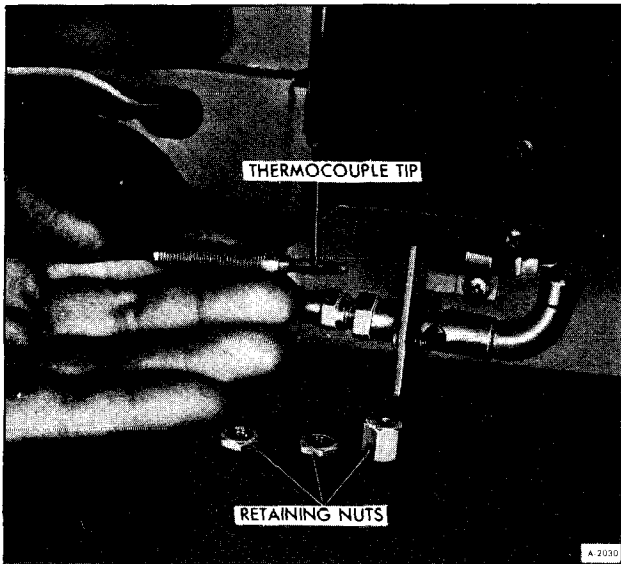

Figure 4—Thermocouple Removed From Burner Box
2. Remove retaining nuts at end of thermocouple and remove tip from burner box (figure 4).